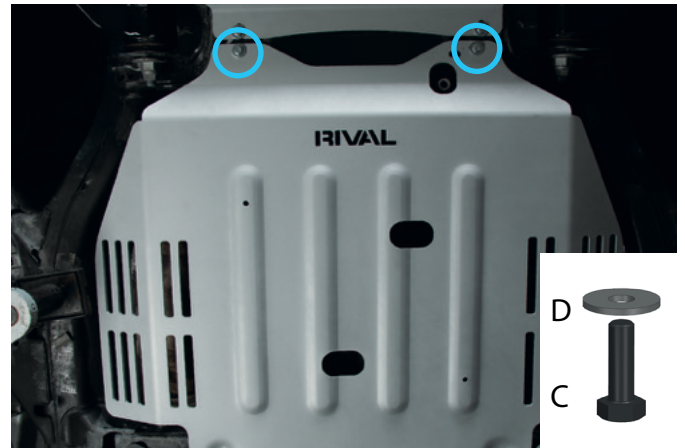

Fig. 4
4. Fix the front part of gearbox skid plate using bolts M8x25 (item C) and washers 8 (item D) as shown in fig.4.